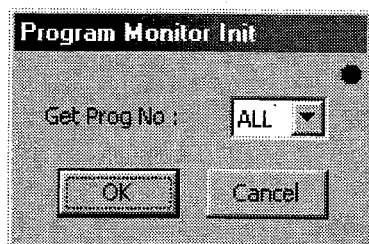

Figure 7.38 "Program Monitor Init" dialog box
Click "*Monitor (M)*" in the "Program Manager" dialog box to display the "Program Monitor Init" dialog box (see Figure 7.38).